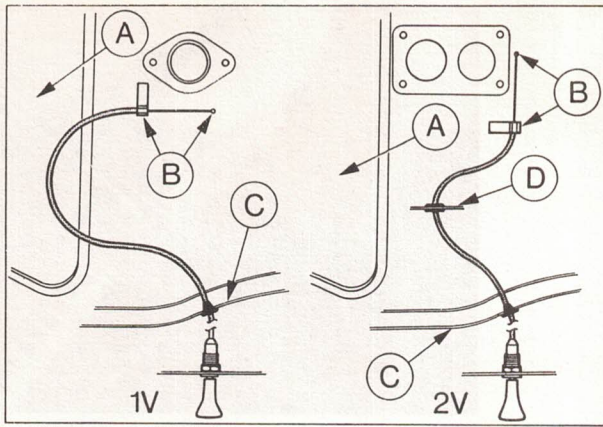

Fig. 5. Choke cable routing. 1.6 litre manual.
5. Thread cable through panel and route as shown in Fig. 5.